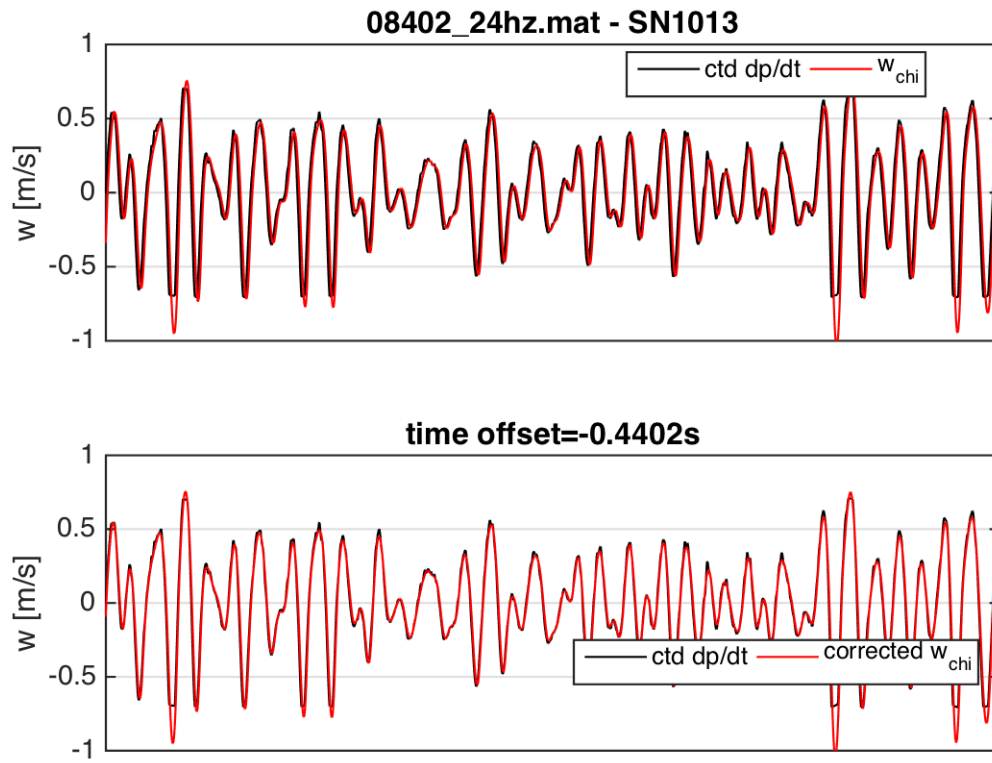
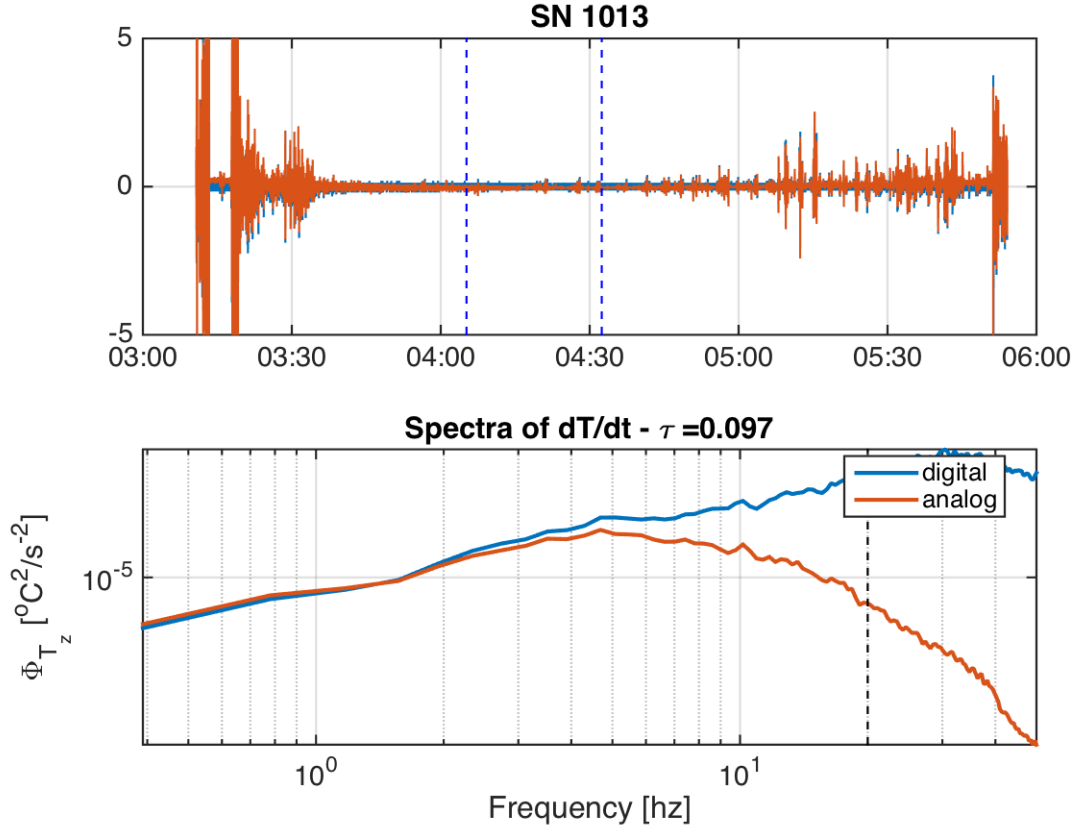
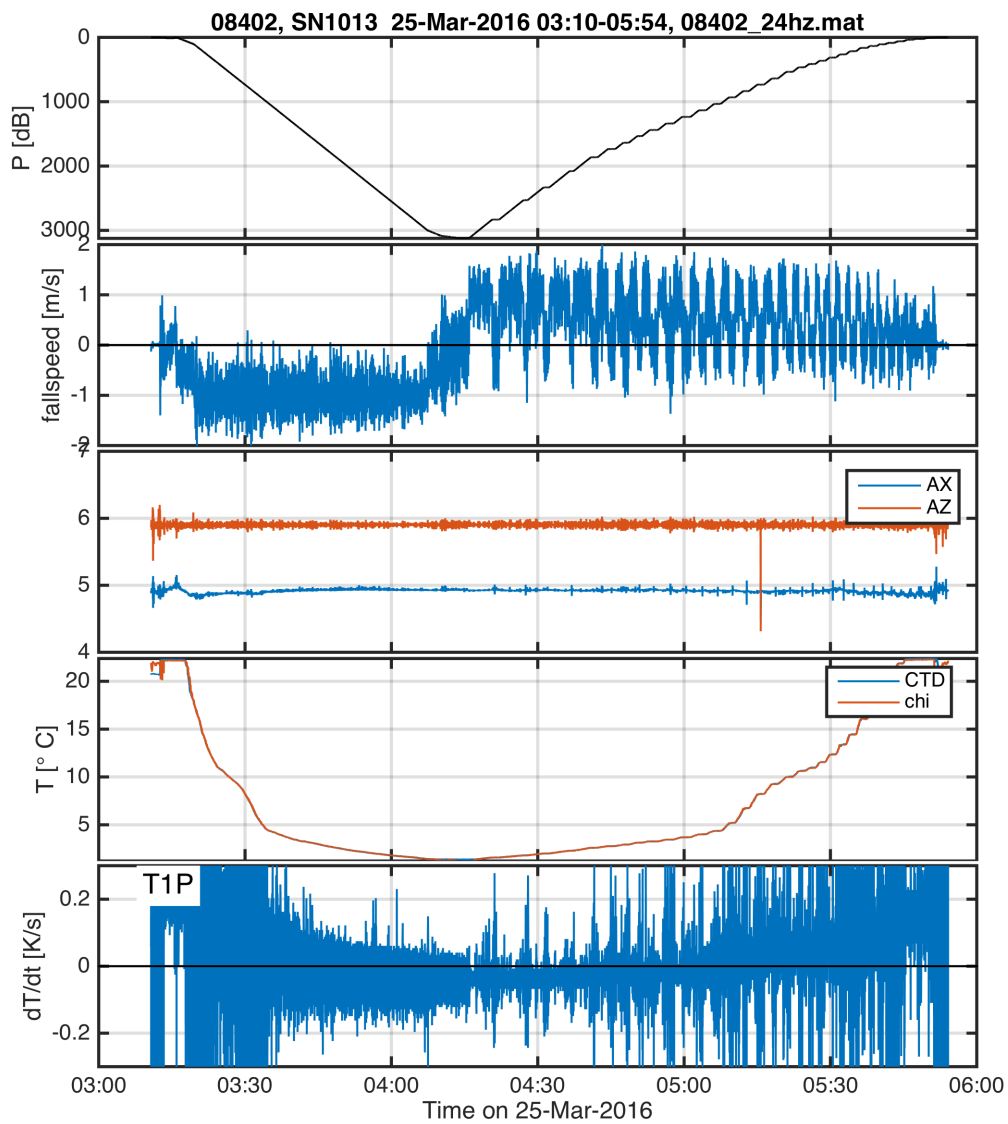

Figure 4: Zoom-in of previous plot allowing one to check if time-offset is correct. Bottom panel should match.
Figure 5:  $dT/dt$  spectra for analog (TP) and digital derivatives. Spectra levels should match; if not time-constant may be wrong.
Figure 6: Time series of aligned and calibrated  $\chi$ pod data for one cast.
- `castname_Fig3_w_TimeOffset_Zoom` (Figure 4). Shows a zoomed-in period of the time-offset. The two timeseries should match in the lower panel.
- `castname_Fig4_w_dTdtSpectraCheck` (Figure 5). This compares the analog  $dT/dt$  (T1P) to the differentiated T signal. The spectral amplitudes should agree up to a certain frequency where the digital  $dT/dt$  becomes dominated by noise. If the spectra below the noise level don't match, the time-constant used in calibration might need to be modified.
- `castname_Fig5_T_P_dTdz_fspd` (Figure 6). Summary of the aligned and calibrated data.
- `castname_Fig6_downcast_chi_T1_avgPhist` (Figure 7).